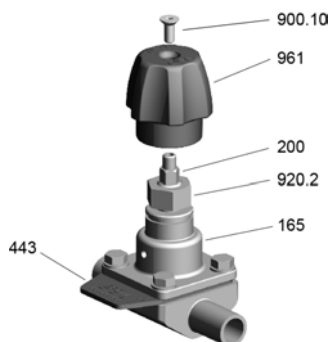

Fig. 9: SISTO-C HV.510/.520 MD 30, setting the closed-position travel stop
5. Fit and tighten screw 900.10 in handwheel 961. This secures stem 200 (⇒ Fig. 9) .